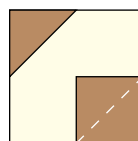
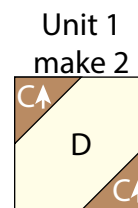

Fig. 3
Fig. 4
2. Follow Figure 3 for the seam direction to add a 2 ½" Fabric C square to the lower right corner of the 4 ½" Fabric D square to make (1) Unit 1 square (Fig. 4).